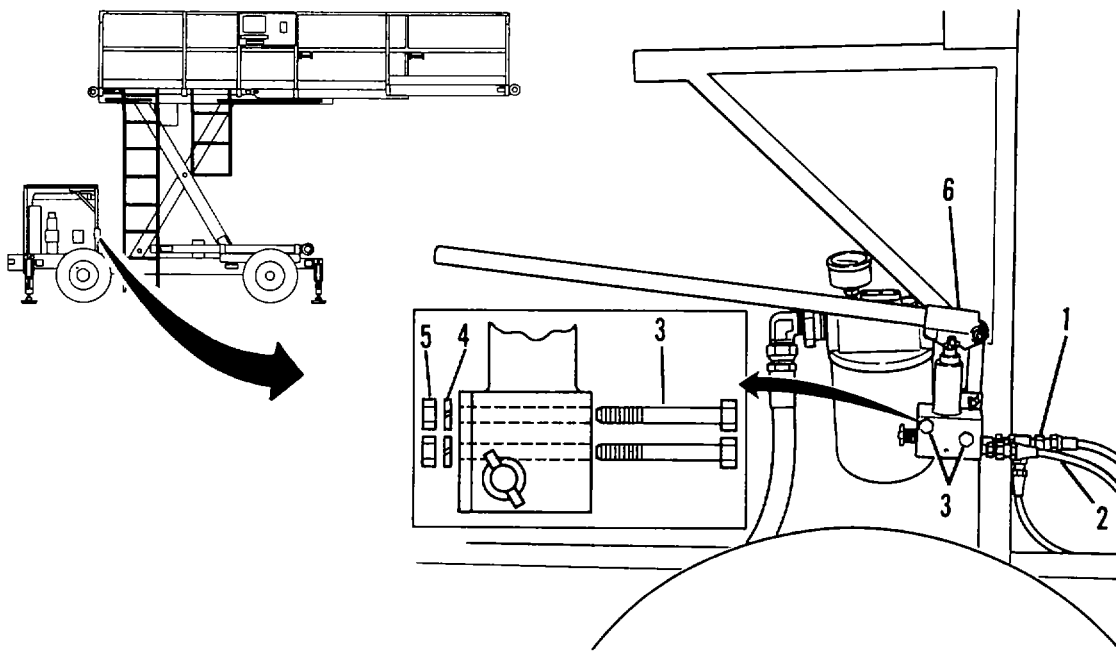

Figure 3-42. Hand Pump.
- (1) Using two wrenches, loosen the hydraulic inlet tee (1, Figure 3-42) slightly, until all pressure is relieved.
- (2) Disconnect inlet tee (1) and return hose (2).
- (3) Remove capscrews (3) with washers (4) and nuts (5) that hold hand pump (6) to frame. Remove hand pump (6).